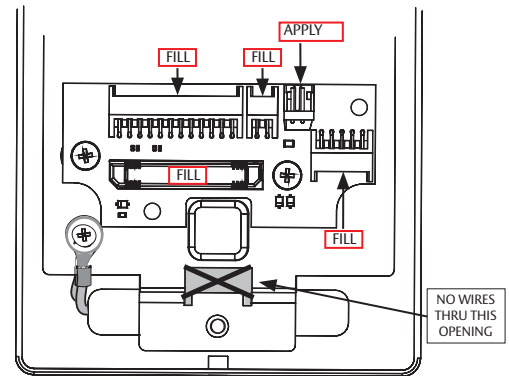

Fig. 12
- Ensure all connector pins and contacts (Fig. 12) are covered - do not overfill or over-apply**
IMPORTANT: Do not run wires through bottom flange hole in plate (Fig. 12) - it will damage wires and the controller connector. Route wires around flange.